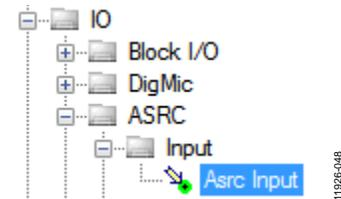
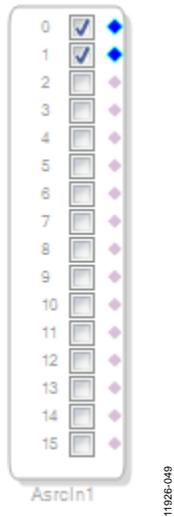

Figure 46. ASRC Input Block Selection
Figure 47. ASRC Input Block
- a. From the **IO > ASRC > Input** folder, click **Asrc Input** (see Figure 46) and drag it into the project space to the right of the toolbox (see Figure 47).
By default, Channel 0 and Channel 1 are active when their corresponding checkboxes are selected. Because the ASRC 0 outputs correspond to Channel 0 and Channel 1, this default configuration can be used (see Figure 47). For reference, a mapping of the ASRC outputs to the corresponding channels on the **Asrc Input** block in the DSP schematic is provided in Table 1.